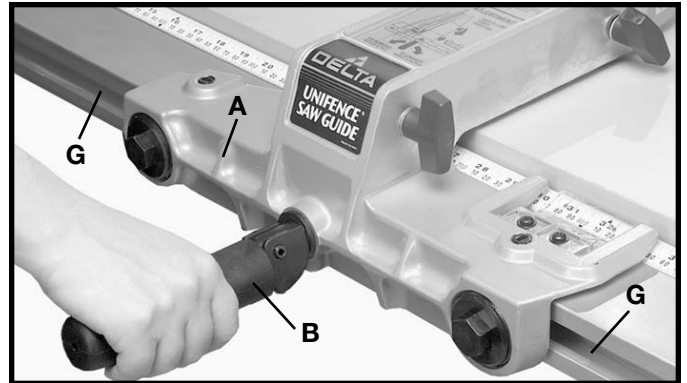

Fig. 67
2. Place fence body (A) Fig. 67, onto the guide rail as shown, making sure clamp bracket is inserted into channel (G) on rail. Notice that the clamp handle (B) is turned to the left indent position.